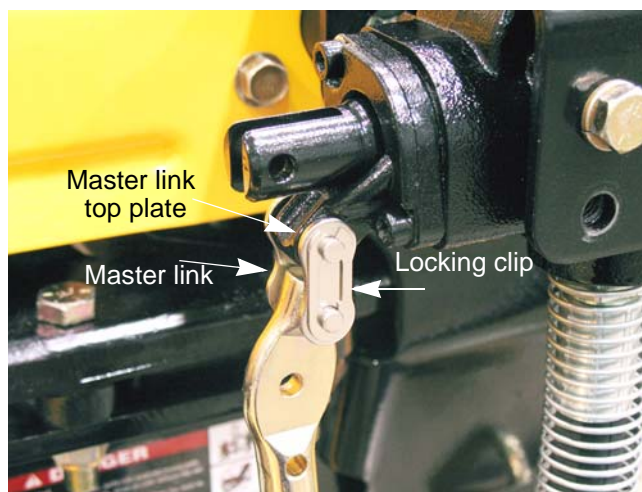

Figure 4.12
4. Remove the master link locking clip. See Figure 4.12.